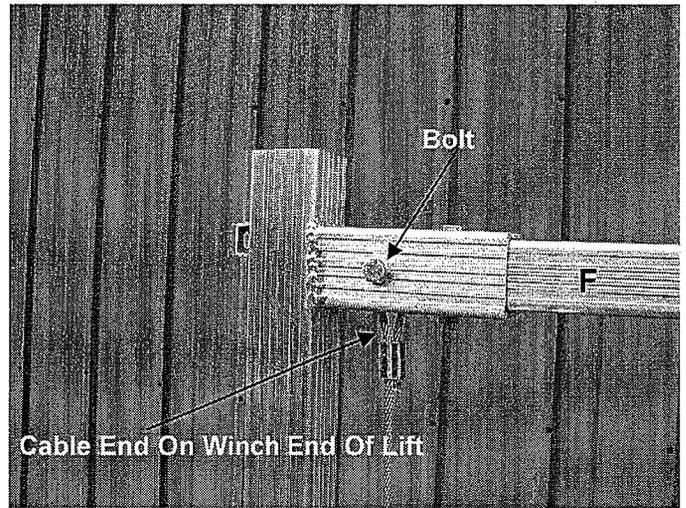

FIG. 29
1. Locate the single cable in the carriage cross beam at the winch end of the lift (See FIG. 29). This cable is also known as the lifting cable. The looped end of this cable must get secured to the far side frame.
2. Locate the 1/2" bolt, place through the hole in the far side frame as shown in FIG. 29. At the same time place the cable end loop up into the hole on the bottom side of the far side frame as shown in FIG. 29.
4. Firmly tighten at this time (See FIG. 29).